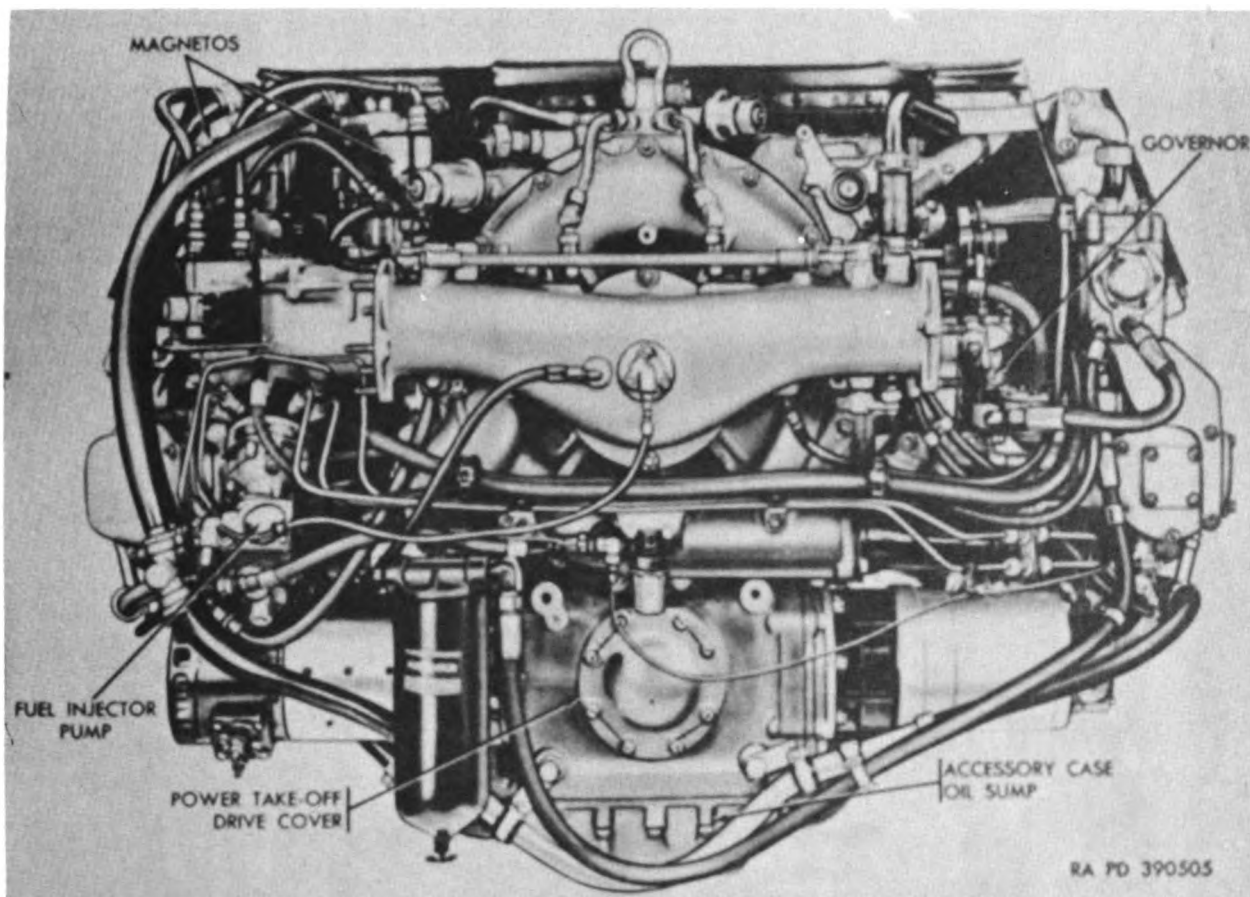
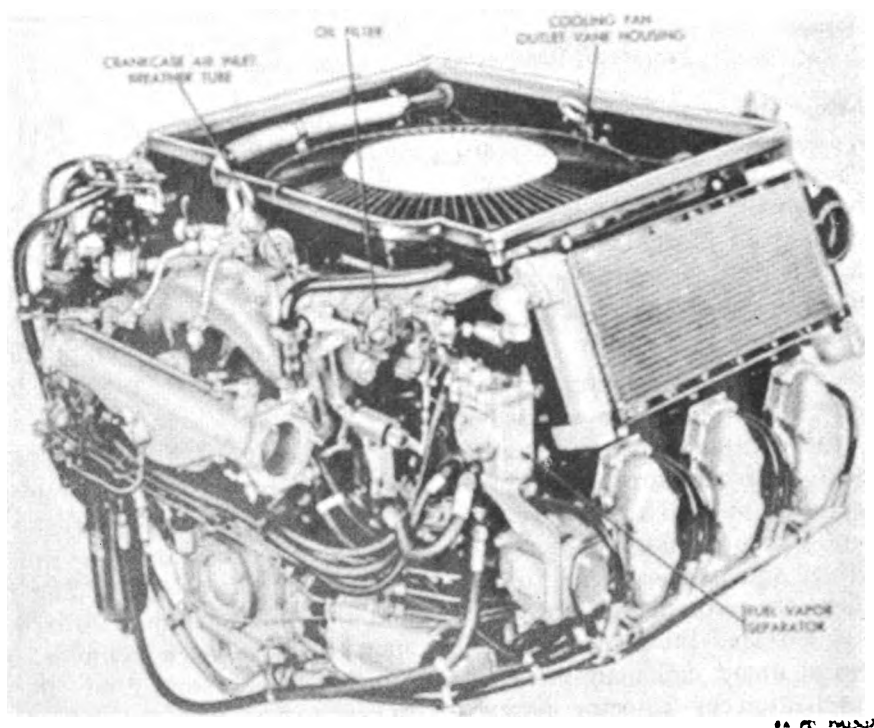
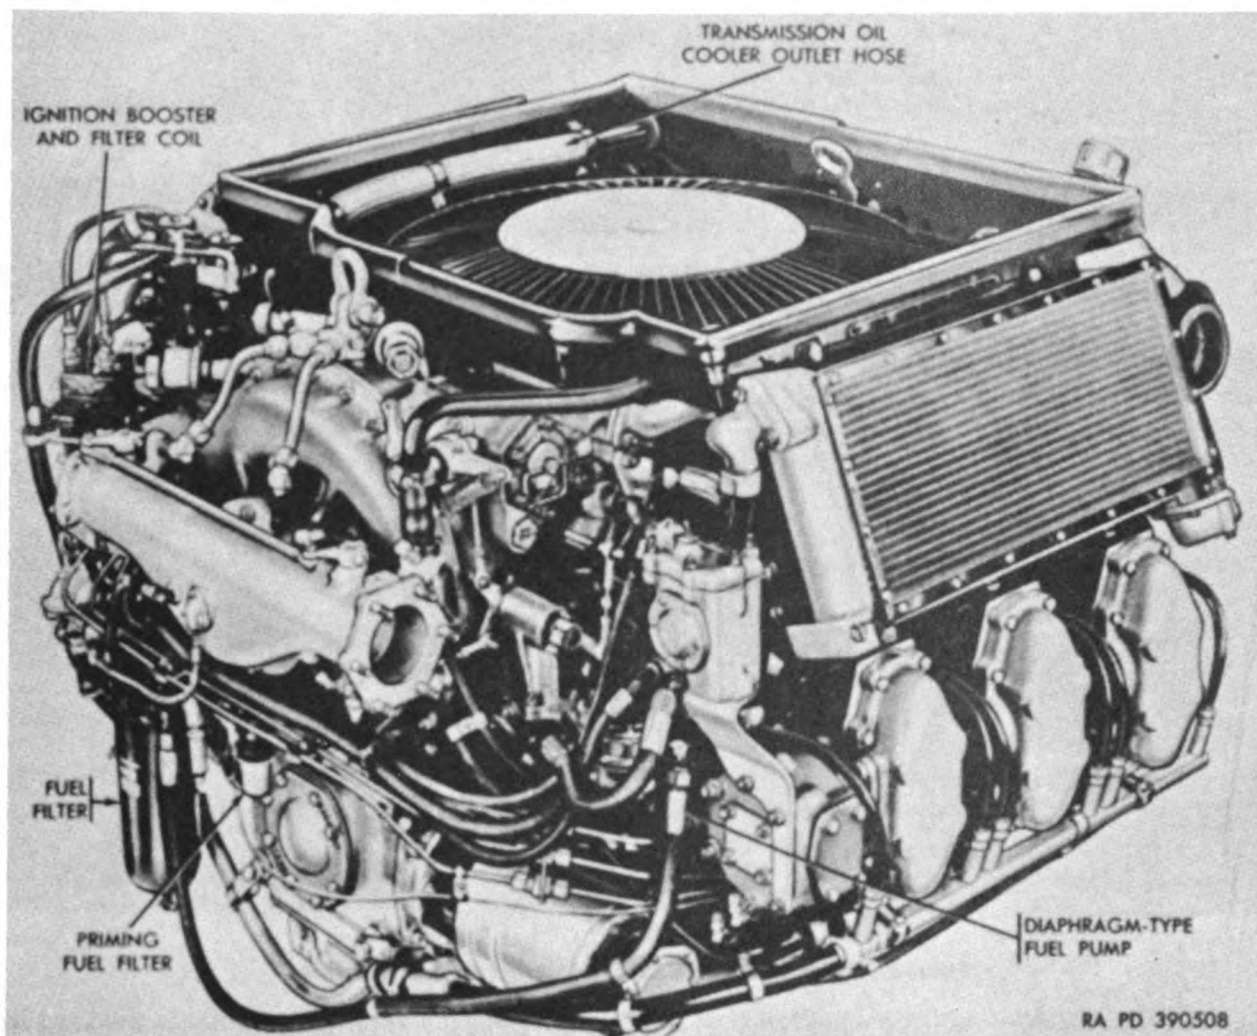
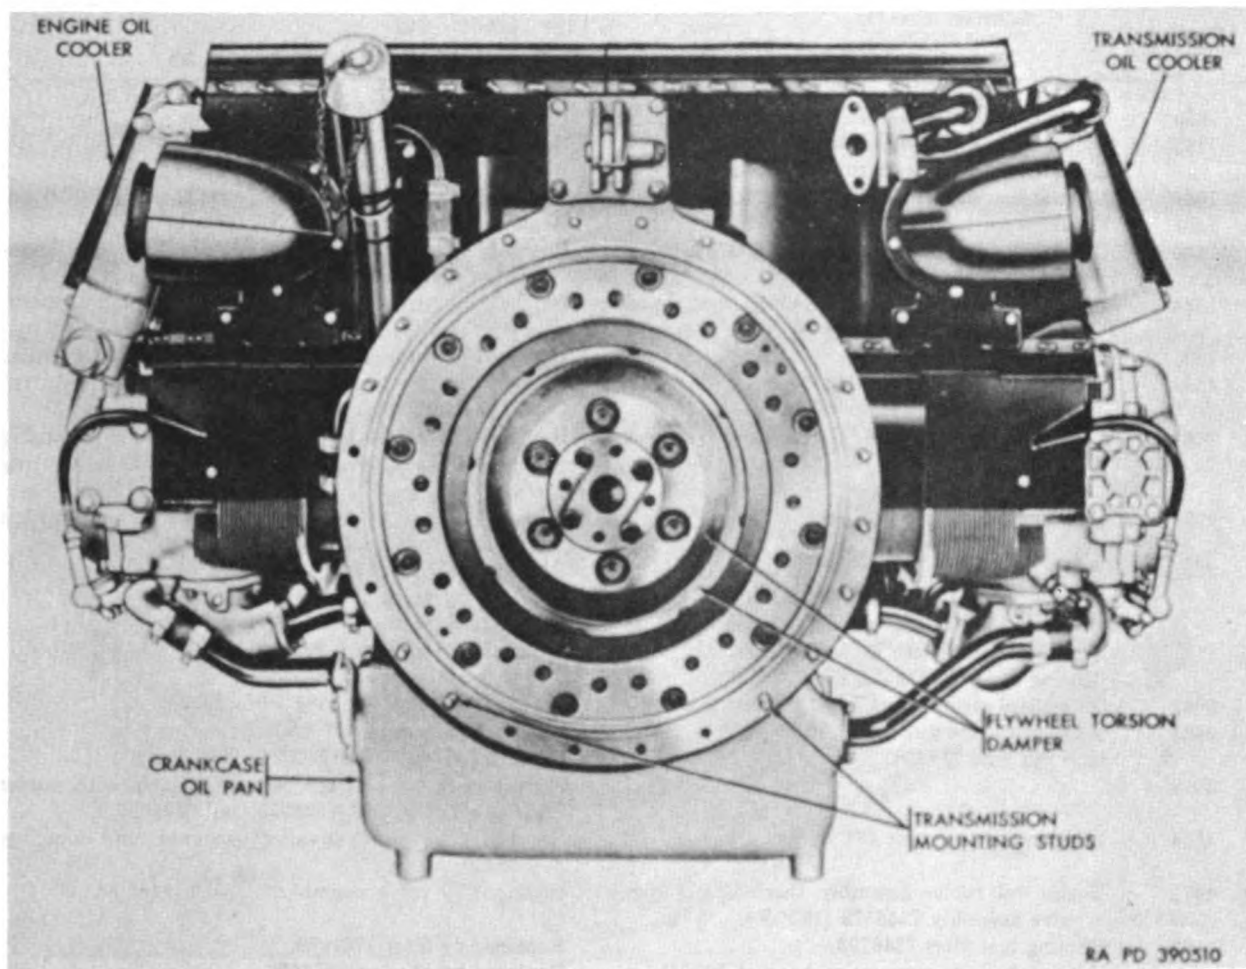

Figure 1. Model AOSI-895-5 engine—front view.
Figure 3. Model AOSI-895-5M engine—three-quarter right front view.
Figure 4. Model AOSI-895-5 engine—three-quarter right front view.
Figure 6. Model AOSI-895-5M engine—rear view.
a. The ends of the engine (figs. 1 and 2) will be called the "accessory end" or "front" and the "flywheel end" or "rear".
b. The cylinder assemblies are individually replaceable units, with overhead valves and valve rocker assemblies in the head. They are arranged in two banks of three cylinders each, with a camshaft to actuate the valves of each bank. A mechanically driven cooling fan, located on top of the engine, is provided to circulate air around the cylinders and through a cooling fan outlet vane housing (fig. 3). Air deflectors and baffles are mounted on the cylinders to direct the air around the cooling fans.
d. A gear-driven fuel injector pump (fig. 1) is mounted on the left side of the accessory case. The fuel injector pump senses engine speed, intake manifold air pressure, and intake air temperature and delivers a correctly metered amount of fuel to satisfy these variables. Distribution of the metered fuel to the individual cylinders is accomplished through an arrangement of external tubes and nozzles. The fuel is delivered under sufficient pressure for complete atomization by injector nozzles located on the manifold side of the intake valves.
e. A diaphragm-type fuel pump (fig. 4) mounted on the right side of the accessory case and actuated by an engine cam, draws fuel from the vehicle fuel supply. The fuel discharged by this pump passes through a fuel vapor separator and to a gear-driven vane-type fuel pump mounted on the left side of the accessory case. The vane-type fuel pump increases the fuel pressure to the level required by the fuel injector pump.
f. Dual ignition is provided by two gear-driven magnetos (fig. 1) mounted on the upper left side of the accessory case, each magneto firing six spark plugs. The inner magneto fires the accessory side spark plug in each cylinder and the outer magneto fires the flywheel side spark plug in each cylinder. A vibrator-type ignition booster and filter coil (fig. 4) is used in conjunction with the inner magneto to assist in starting. An ignition harness connects each magneto to its spark plugs. The magnetos and
g. The engine is lubricated by a force feed system. A combination scavenger and pressure oil pump and a separate accessory case scavenger oil pump supply oil to the lubrication system. The combination pump is mounted on the lower side of the crankcase inside the oil pan. The scavenger pump of this combination unit transfers oil from the flywheel end of the crankcase oil pan (fig. 6) to the pressure pump reservoir. The separate scavenger pump transfers oil from the accessory case oil sump (fig. 1) to the pressure pump reservoir. With the scav-
enger pumps constantly transferring oil from both ends of the engine, the pressure pump is assured an adequate supply of oil at all times regardless of the operating angle of the engine. In normal operation the oil passes from the pressure pump through passages in the crankcase and accessory case to the external oil coolers (fig. 6) and returns to the engine through the oil control housing and oil filter (fig. 3). The oil flow (fig. 19) is controlled by five valves. A fuel injector oil pressure regulator valve, an oil pressure control valve, an oil filter bypass valve, and an oil cooler bypass valve are all located in the oil control housing. The fifth
c. *Flywheels.* Model AOSI-895-5M engines incorporate a torsion damper assembly (fig. 6) in the flywheel. This item is omitted on model AOSI-895-5 engines.